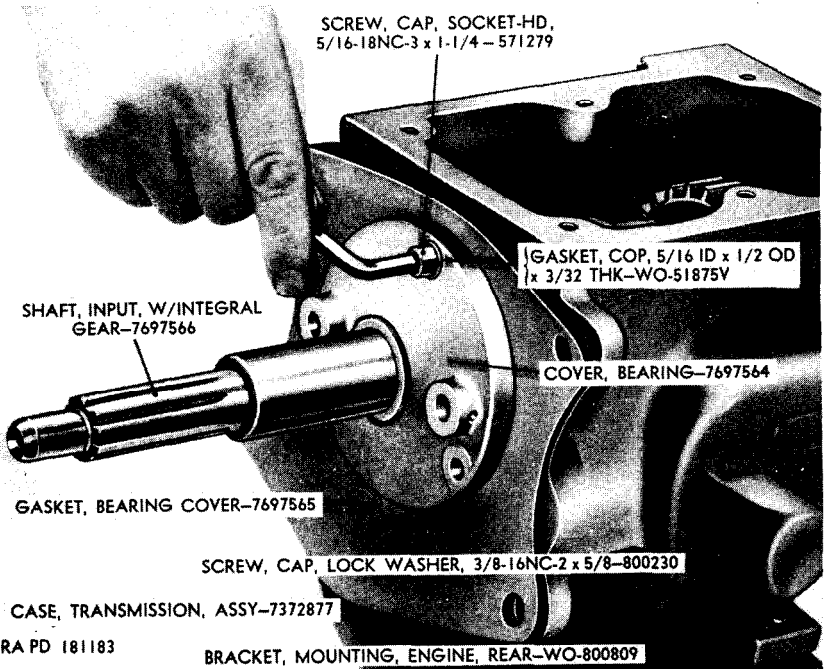

Figure 47. Removing transmission input shaft bearing cover cap screws.
a. *Remove Input Shaft Bearing Cover.* Remove three socket head cap screws (fig. 47) and gaskets which secure the input shaft bearing